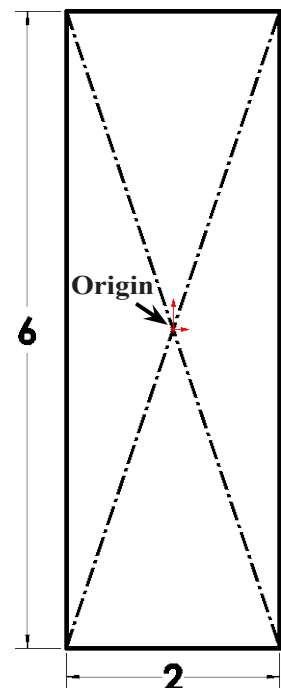

Fig. 2
Step 4. Sketch a rectangle starting at Origin , **Fig. 2**.
Step 5. Click **Smart Dimension**  (S) on the Sketch toolbar.
Step 6. Dimension 2 x 6, **Fig. 2**.